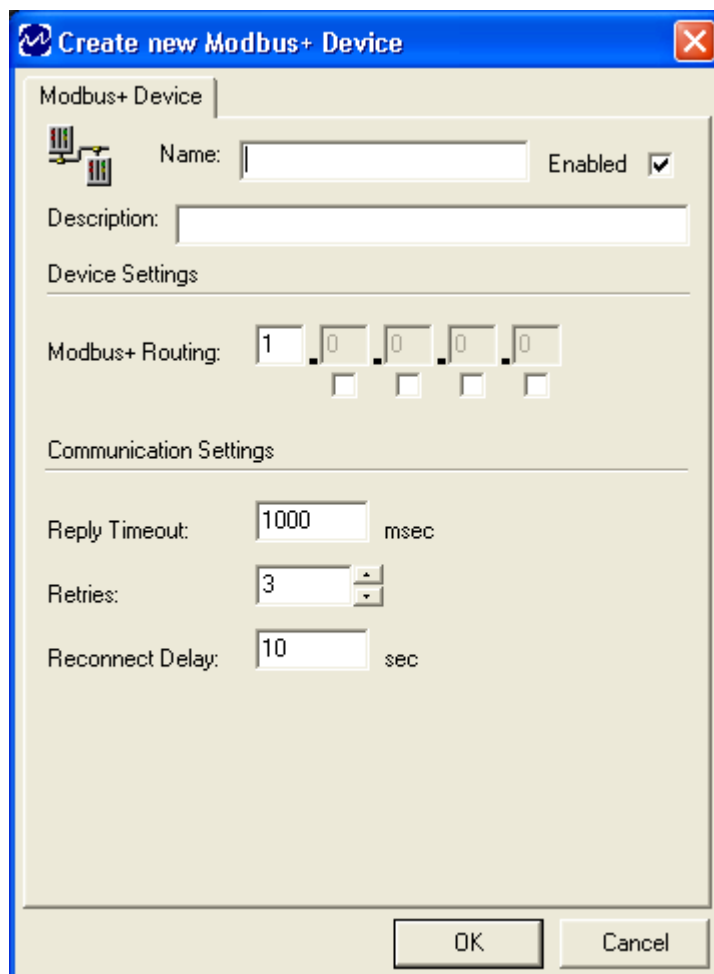

Figure 9 - Create New Modbus+ Device Window
Note: A **Modbus+ Device** can be created as a child of a **Modbus+ SA85 or PCI85 Card**. The **Create New** window (Figure 9) displays the settings available for a connection to a Modbus+ Device.
- The **Create New** window (Figure 9) appears.